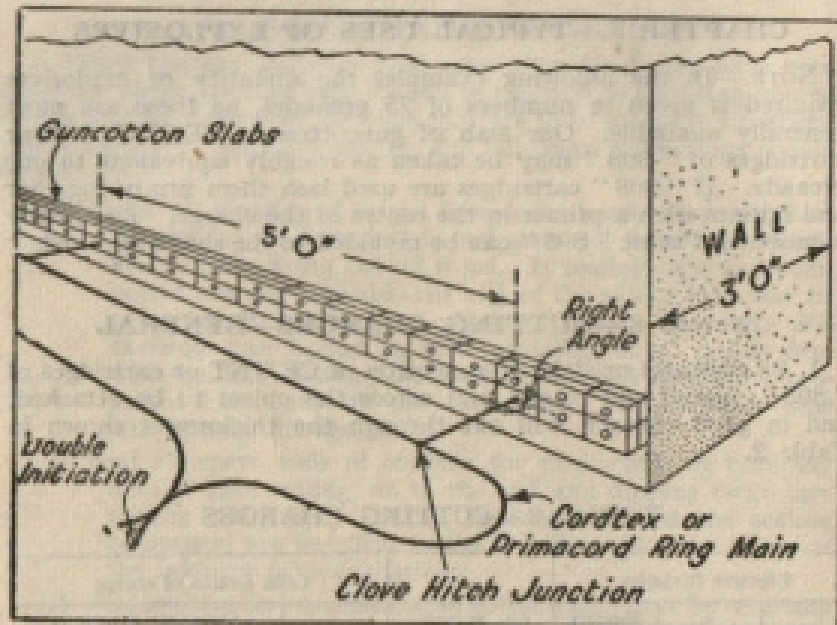

Fig 13. Cutting charge on thick masonry wall, showing points of initiation. (Fixing omitted for clarity)
- (b) Long continuous cutting charges should have points of initiation (primers fired by cordtex, etc., as already described) every 5 ft of their length (see Fig 13). Grenades, however, should be placed flat end to flat end, with every other grenade initiated by cordtex. Where possible initiation should be on the surface of the charge furthest from the face of the object attacked and at right angles to it (see Fig 13).
For walls over 9 ins and up to 18 ins thick use a continuous line of grenades placed flat end to flat end. Every other grenade should be initiated with cordtex as already described. It is emphasized again that such charges are NOT sufficient for reinforced concrete walls. Fig 13 shows a thick masonry wall with a cutting charge of four slabs of GC per foot run.